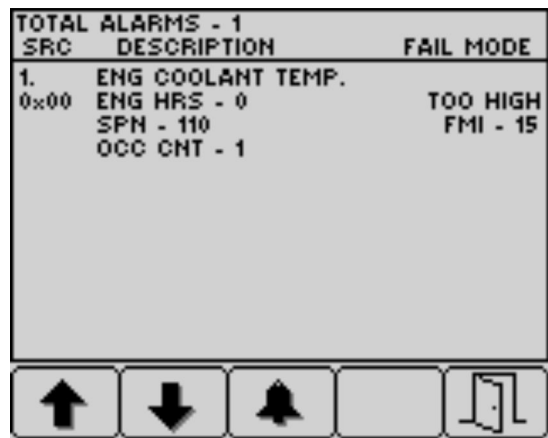

Figure 45
- Press button 5 to exit the active fault list and return to the home screen (Figure 45).
5. Press button 5 to exit the active fault list and return to the home screen; refer to Figure 45 in Engine Advisories Messages \(page 40\).